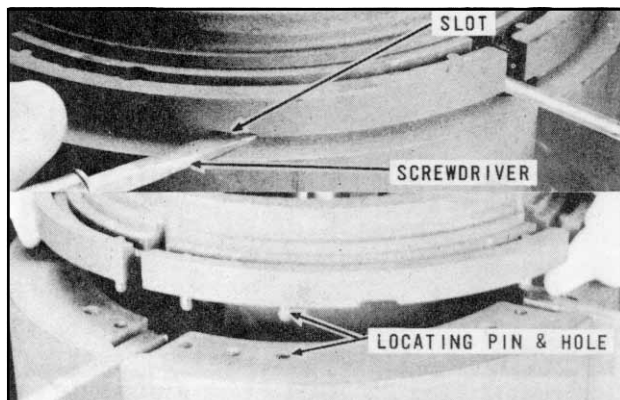

Figure 21 – Removing Cover from Rotor
3. To separate the cover and rotor, pry up (to prevent damaging edge of rotor) at the openings provided, Figure 21.